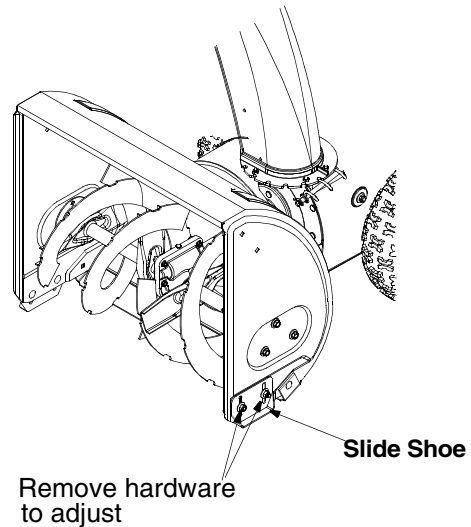

Figure 7
The space between the shave plate and the ground can be adjusted. For close snow removal, place slide shoes in the low position. Use middle or high position when area to be cleared is uneven. See Figure 7.
- Adjust slide shoes by loosening the two hex nuts and carriage bolts on each side and moving slide shoes to desired position. See Figure 7.